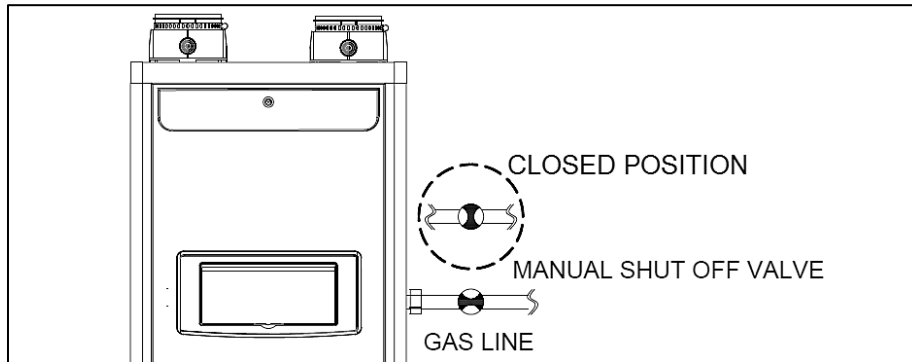

Figure 14 – Gas Line with Shut-Off Valve Detail
4. A manual gas shut-off valve should be installed in the gas supply line close to the appliance. See Figure 14 for detail.